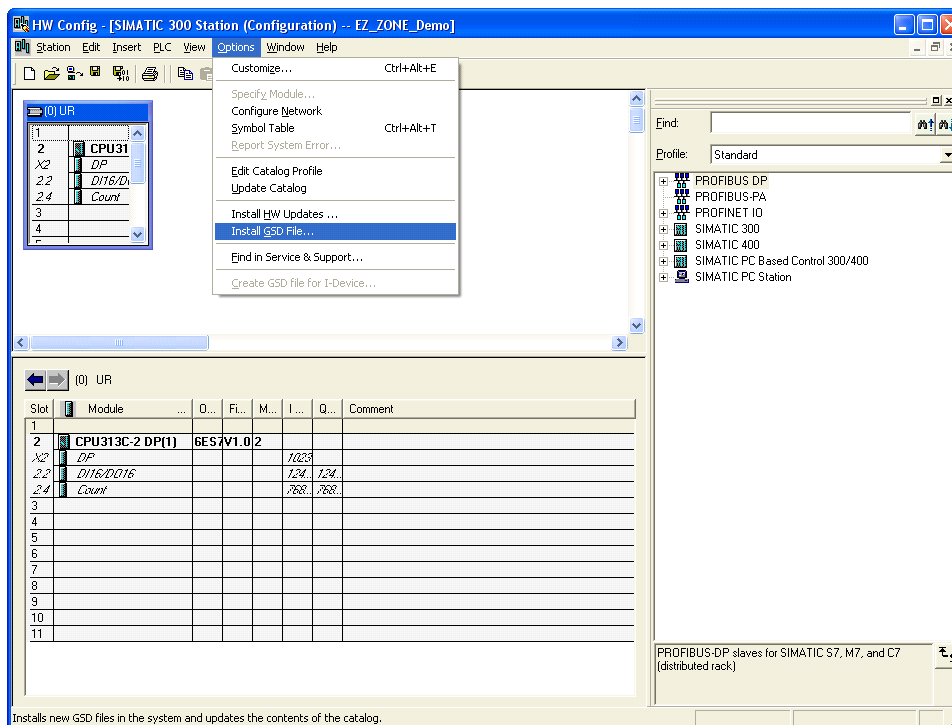

Figure 3a: Installing a GSD File
3. Go to Options → Install GSD File (Figure 3a) and follow the on screen instructions.